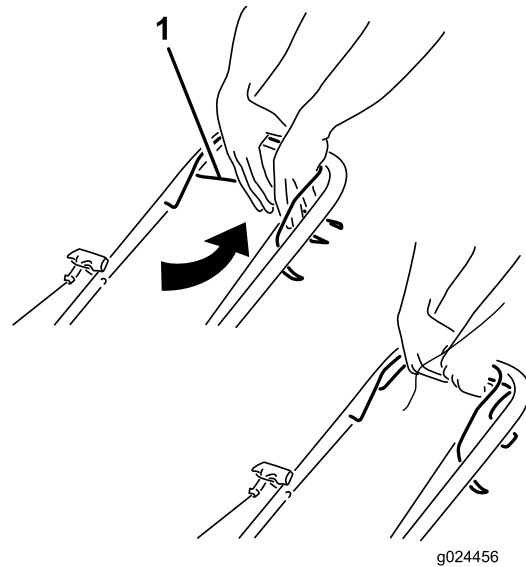

Figure 13
- **To engage the self-propel drive:** Squeeze the self-propel-drive bar against the handle and hold it (Figure 13).